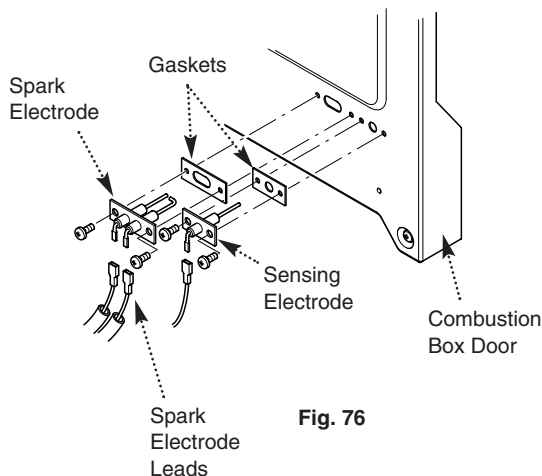

Fig. 76
13.20 Spark and Sensing Electrodes (Fig. 76)